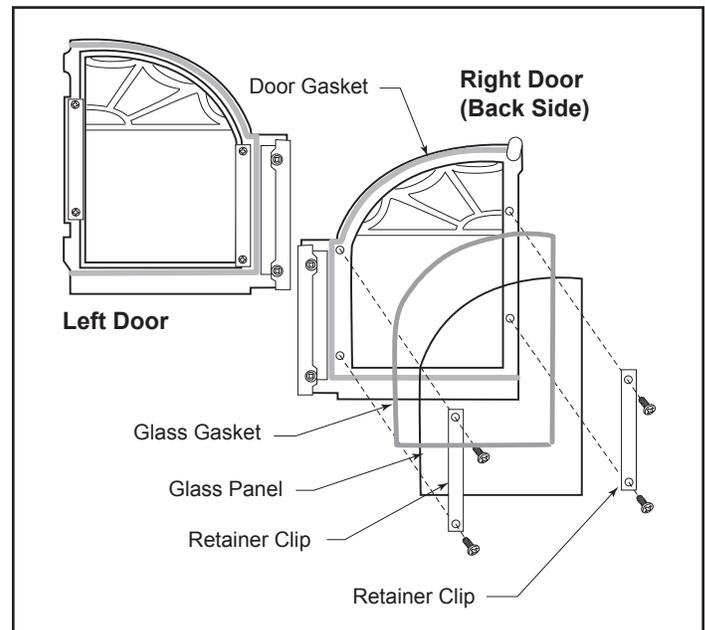

Figure 42 - An exploded view of the glass assembly.
2. Secure the glass on both doors with the retainer clips. Tighten all screws. (Figure 42)